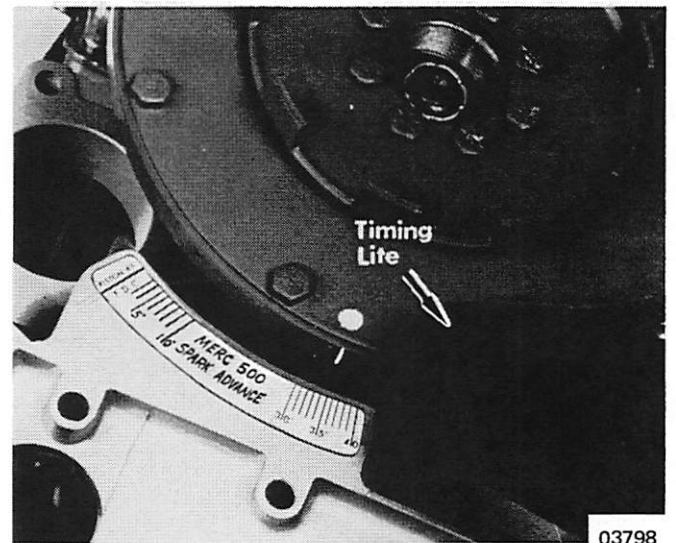

Figure 7. Merc 500 Spark Advance
- With engine running at wide open throttle, adjust spark advance screw in or out to align the flywheel timing mark to correspond to degree mark on timing decal (Figure 7) as determined by the engine RPM in chart above. Tighten spark advance screw jam nut and recheck timing.